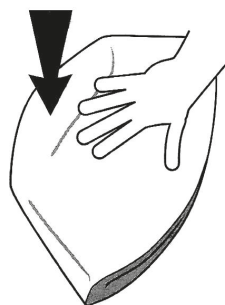

Fig. 1
- Flatten and fold the cover in half and fold it back on itself (Fig. 1 - 2).